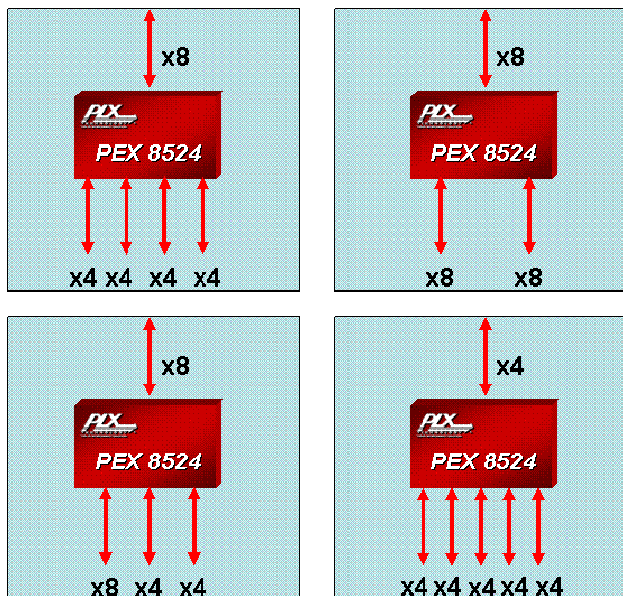

Figure 1. Common Port Configurations
The PEX 8524 supports a large number of port configurations. For example, if you are using the PEX 8524 in a fan-out application, you may configure the upstream port as x8 and the downstream ports as four x4 ports; two x8 ports for dual-graphics fan-out; or other combinations, as long as you don't run out of lanes (24) or ports (6). In a peer-to-peer application you can configure all six ports as x4. Figure 1 shows the most common port configurations.